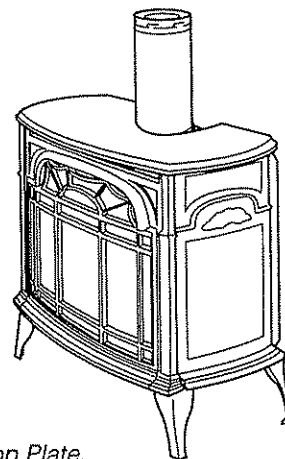

Figure 33. Install the Top Plate.
2. Place the Top Plate over the sides and front. The upper edge of the side plates should seat into the channel in the underside of the Top. Fig. 33.